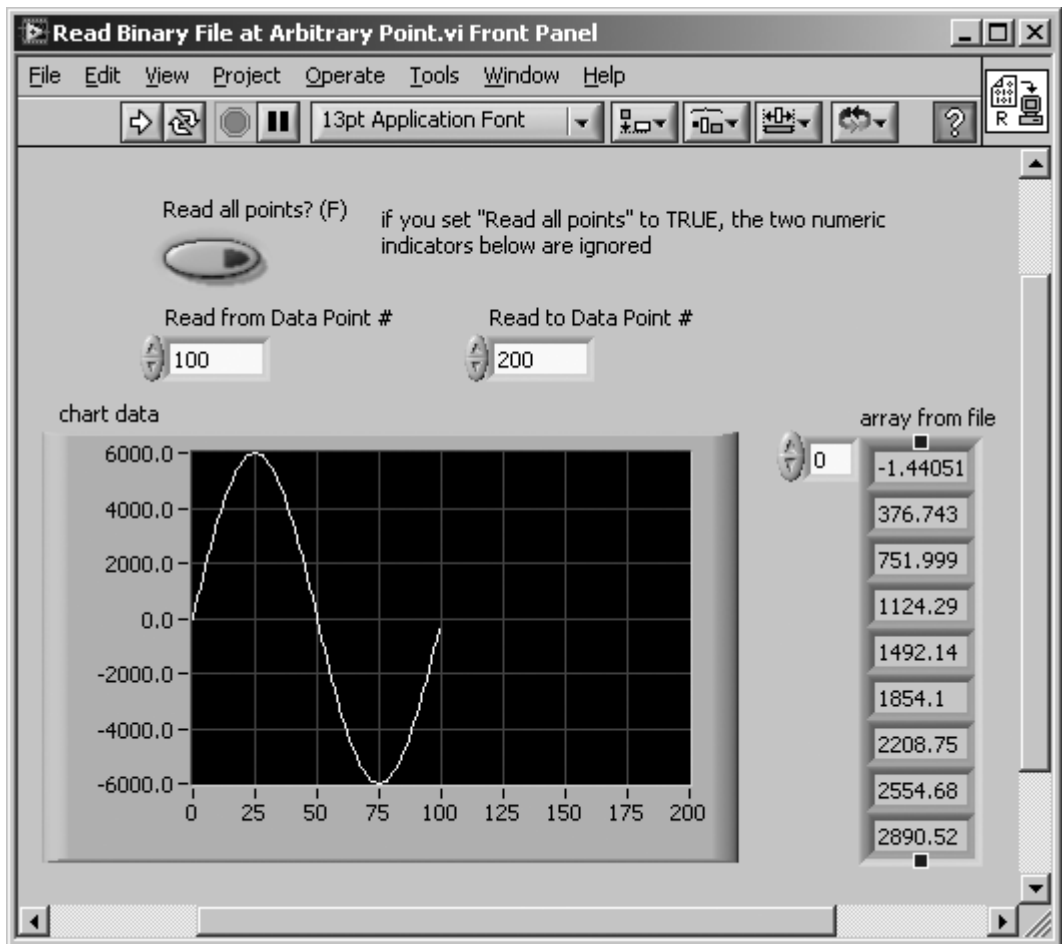

Figure 14.22
3. Now let's create the VI to read it. Suppose that you wanted a VI that didn't necessarily read the entire file, but gave you the option of reading from an arbitrary point to any other arbitrary point. For example, if your file has stored 1,000 points (not bytes) of data, you might want to read points 100 through 200. Create the front panel shown in Figure 14.22 and save the VI as **Read Binary File at Arbitrary Point.vi**.